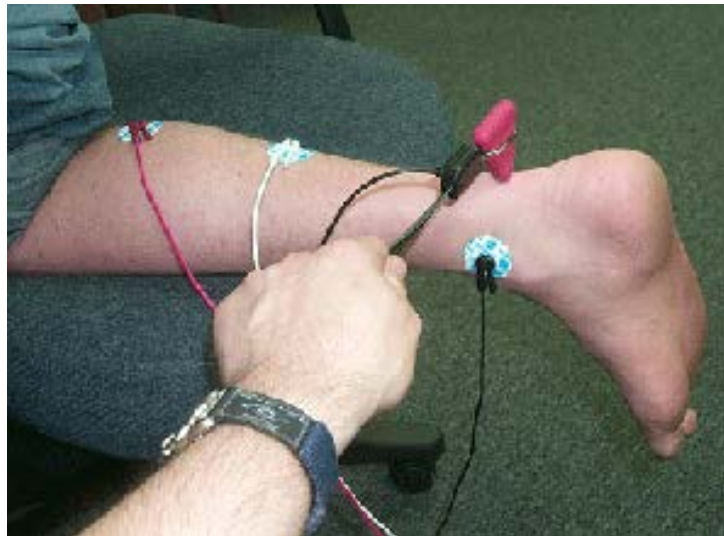

Figure 4: Electrode positioning for ankle jerk reflex
1. Place two electrodes on the upper backside of the calf muscle, approximately 5 inches away from each other (Fig. 4).